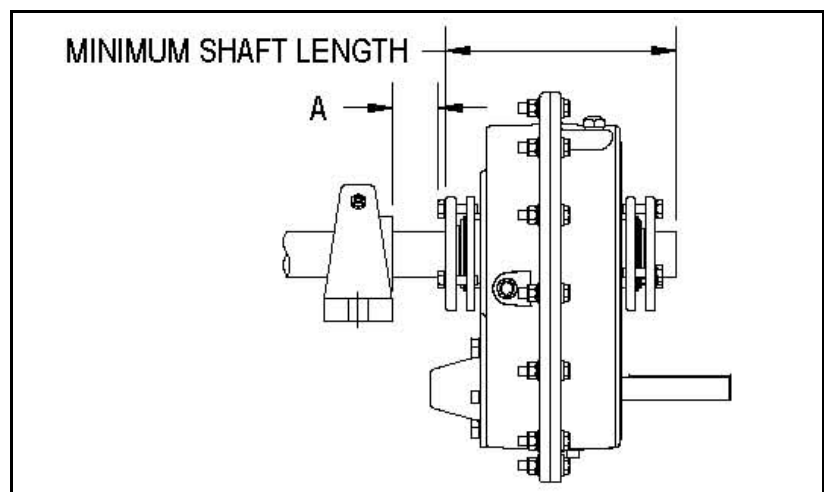

Figure 3.7 Minimum Recommended Dimensions
1. The long bushing is designed to be installed from the side of the reducer opposite the driven equipment as shown in Figure 3.7. The long bushing when properly installed is designed to capture the end of the shaft that does not extend through the reducer. Normally the reducer would be mounted such that the input shaft extends from the side of the reducer opposite the driven equipment however the reducer design allows installation of the reducer to be mounted in the opposite direction.
2. Install the tapered bushing wedge into the hollow bore of the reducer from the same side as the long bushing will be installed. When installing the tapered bushing wedge into the reducer hub, install the flange end first so that the thin taper is pointing outwards towards the long bushing as shown in Figure 3.7. The wedge is properly installed when it snaps into place in the reducer hub.